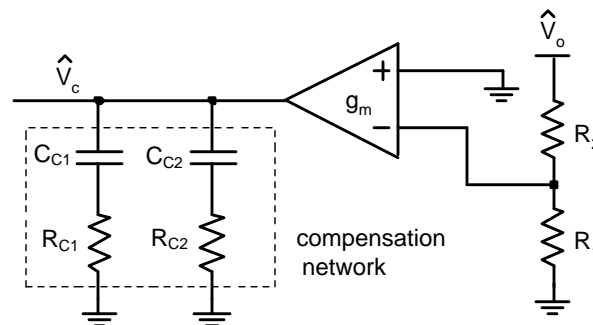

Figure 19. Compensation Network
- R1 and R2 are the feedback resistors as shown in Figure 19
The compensation network (Figure 19) will also introduce a low frequency pole which will be close to 0Hz.
A second pole should also be placed at fz. This pole can be created with a single capacitor Cc2 and a shorted Rc2 (see Figure 19). The minimum value for this capacitor can be calculated by: